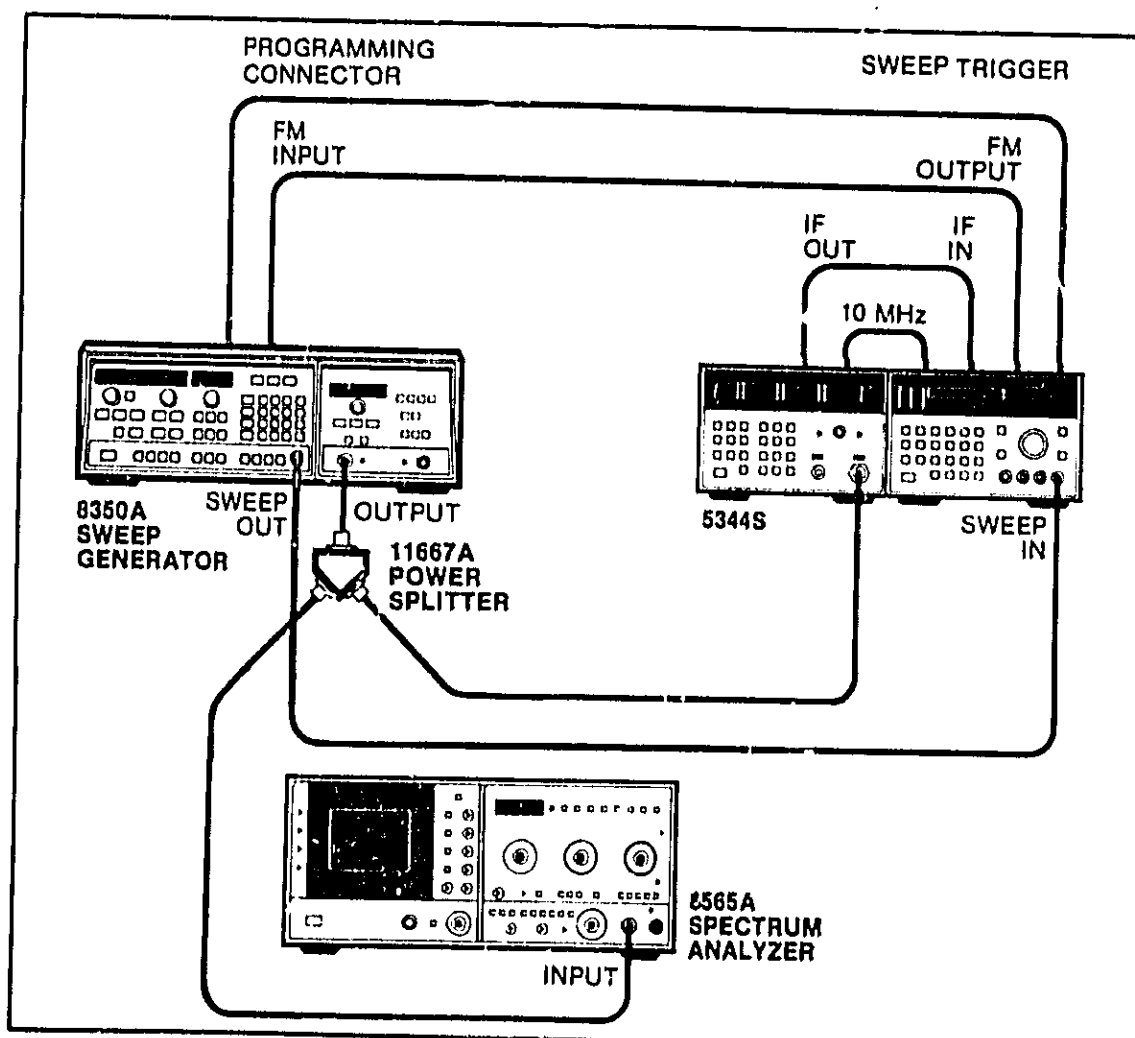

Figure 4-5. Lock and Roll Test Setup
- Connect the equipment as shown in Figure 4-5.